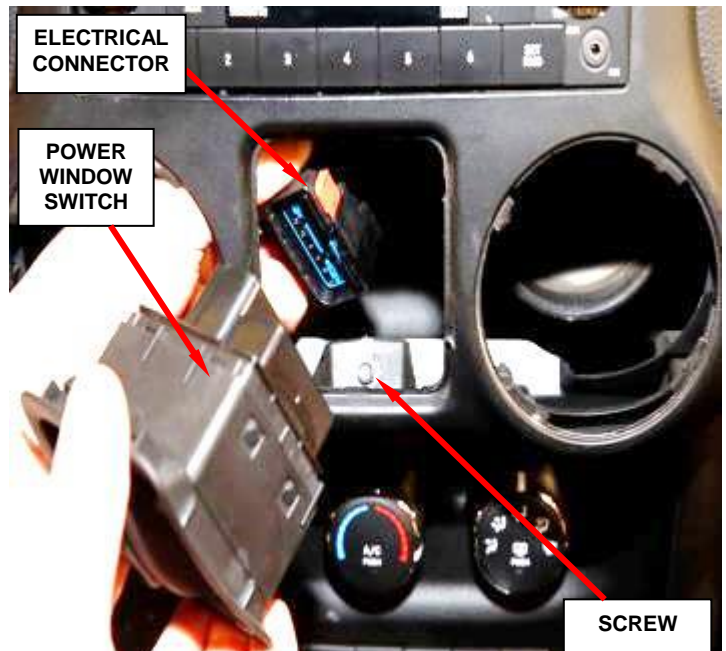

Figure 107 – Power Window Switch
14. If equipped with power windows, using a Trim Stick C-4755 or a suitable flat bladed tool, gently pry the switch assembly away from the instrument cluster bezel (Figure 107).
16. Disconnect the switch assembly electrical connector and remove the switch (Figure 107).
17. Remove the screw from the power window switch opening (Figure 107).